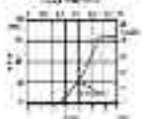

Figure 11
2. **Figure 11** shows the **distance** travelled by a **car** in **10** **seconds**.